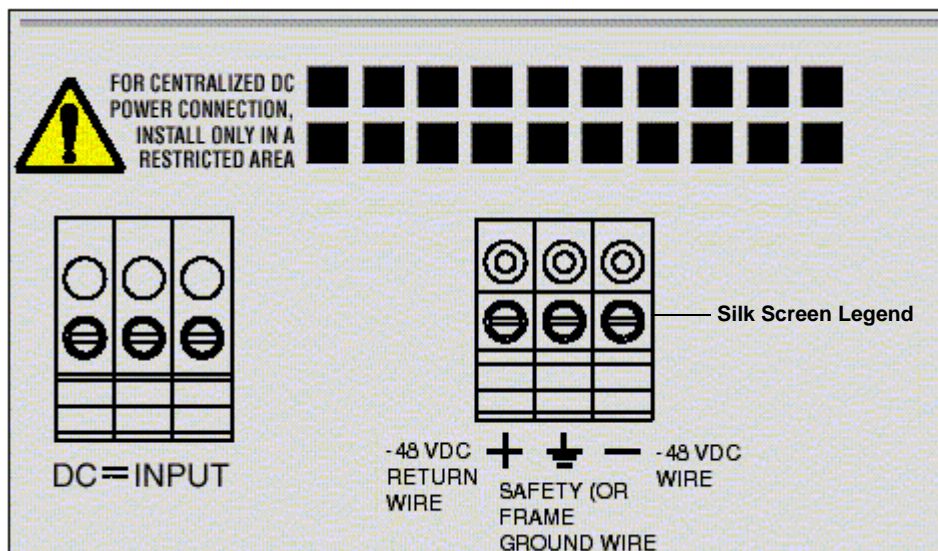

Figure 2-11 Ethernet Switch Rear Panel, DC Version
2. Fully loosen screws and insert the appropriate stripped wires into the matching holes at the bottom of the connector terminal according to the silk screen legend on the back panel of the unit, shown in Figure 2-11.